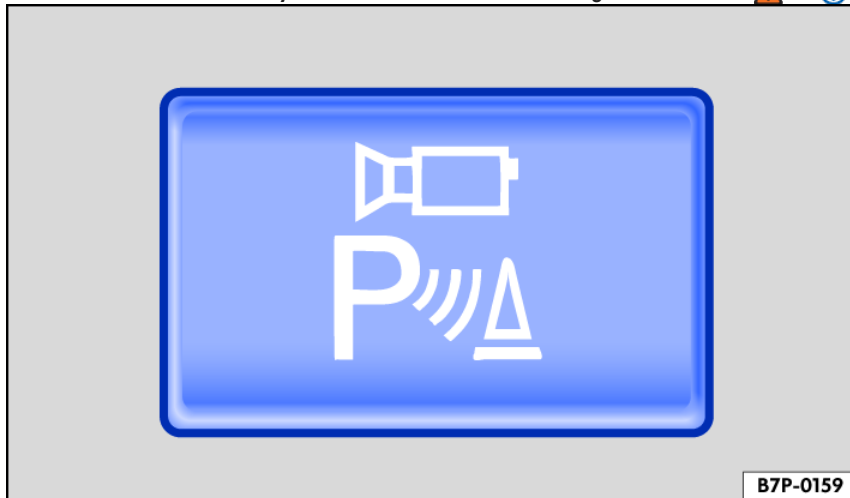

Fig. 144 In the center console: Button for switching the Area View on and off (general example).
- OR: Press the  button *fig. 144*.